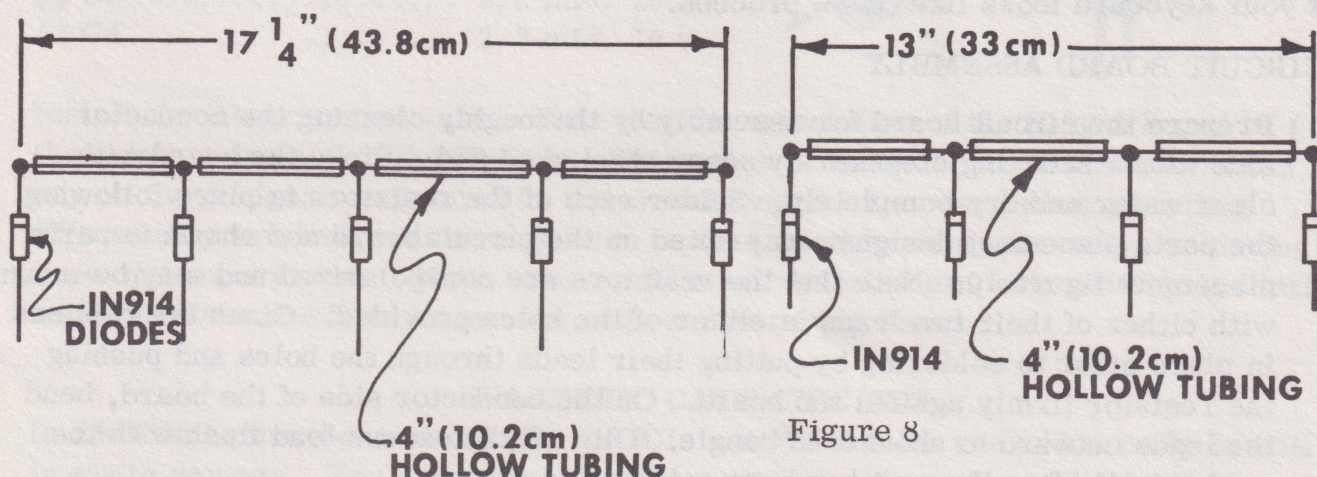

Figure 8
- () Repeat the above procedure until you have a complete diode bus consisting of four length of 4" rubber tubing, and 5 diodes. The final assembly should look like figure 8.
- () Cut three 13" (33 cm) length of the bare wire. Using these wires, construct three more diode busses each using four diodes and three 4" (10.2 cm) lengths of hollow tubing. These three busses are constructed exactly like the previous five. See figure 8.